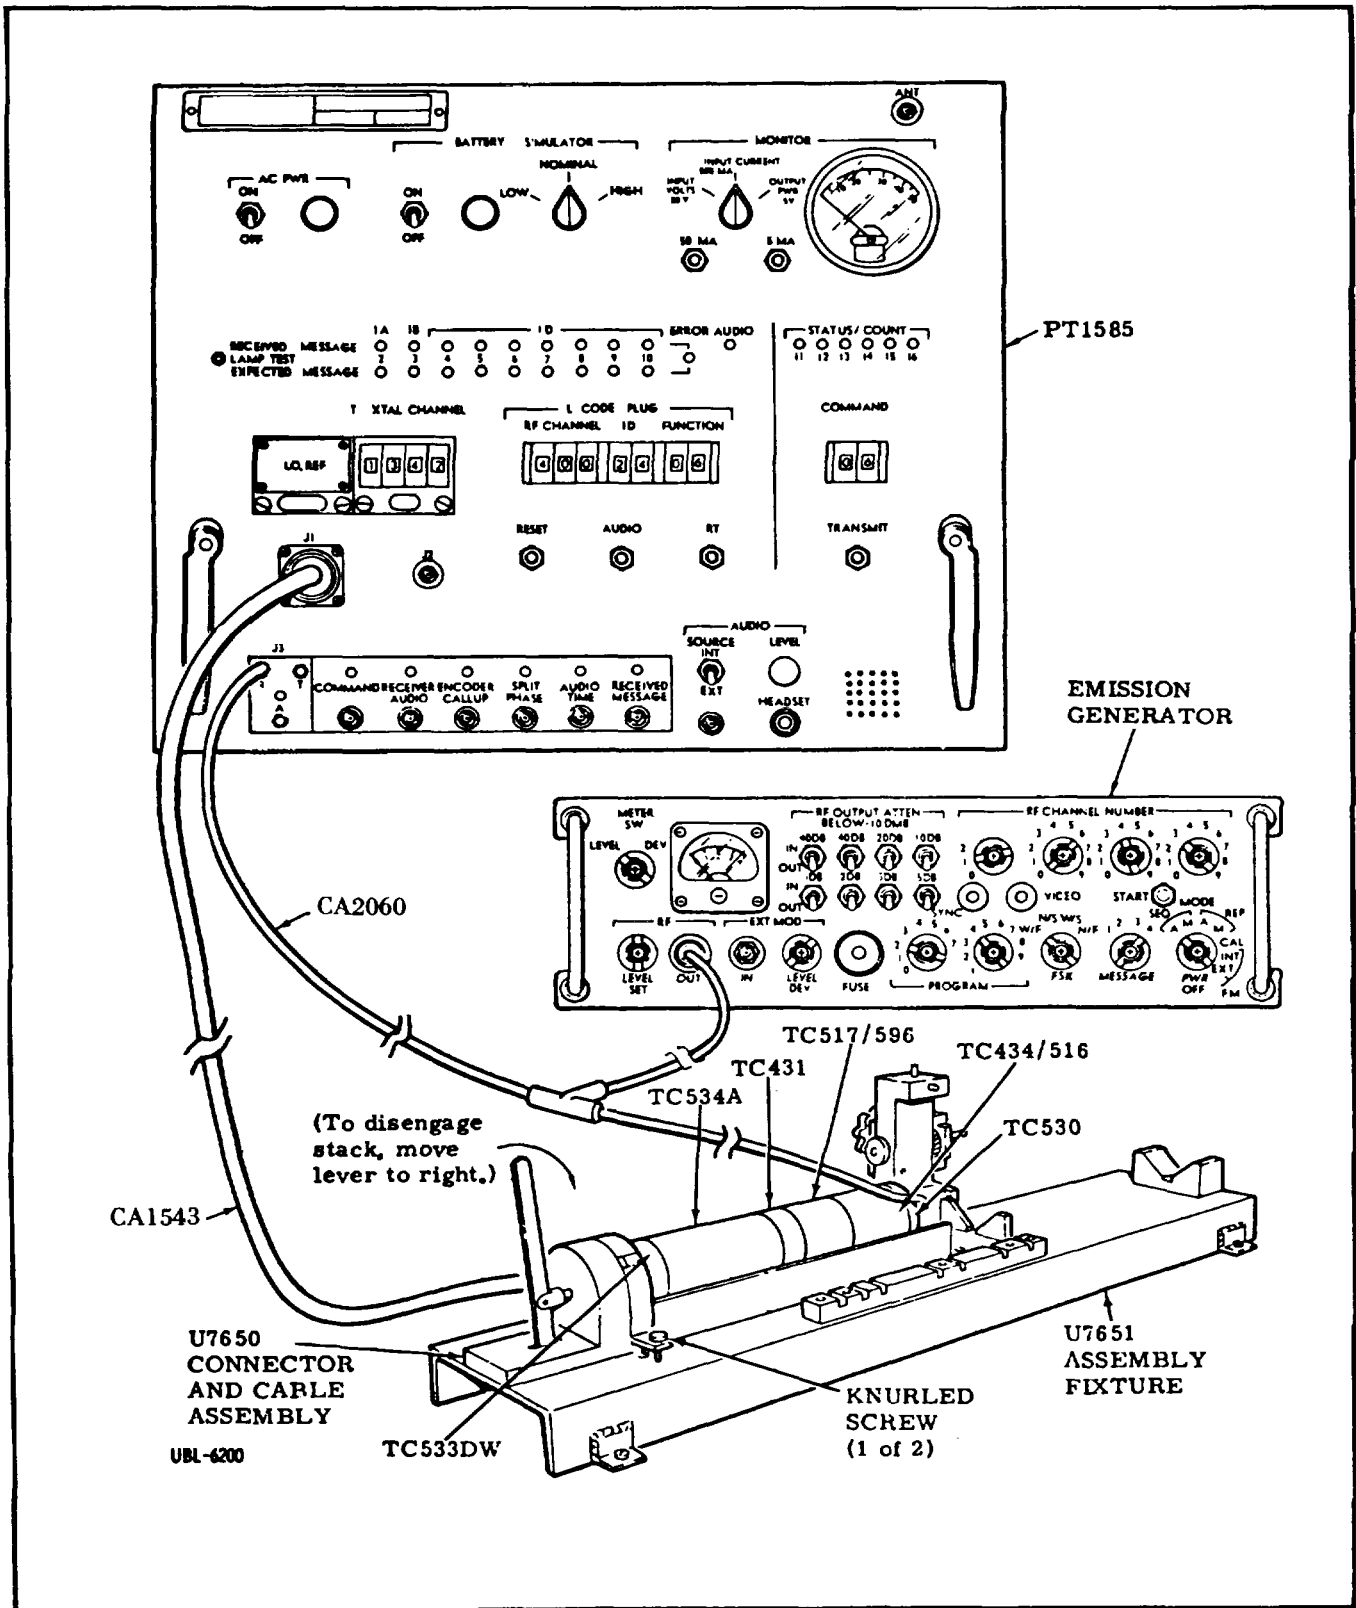

Figure 4-3A. EXRAY Stack Test Setup.
a. Position U7650 Connector and Cable Assembly on end of U7651 Stack Assembly Fixture as shown in figure 4-3A. Secure by knurled screws.
c. Set RF OUTPUT ATTEN to 75 db in (figure 4-3A).
a. Insure the AC PWR and BATTERY SIMULATOR toggle switches (figure 4-3A) are at OFF.
i. Connect CA2060 cable (figure 4-3A) as follows: No. 1 connector to TC530 in EXTRAY stack, No. 2 connector to RF OUT receptacle on emission generator, No. 3 connector to J3-R on PT1585.